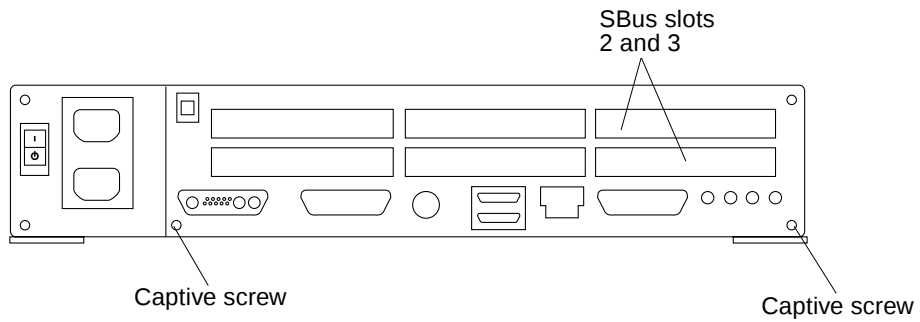

FIGURE 8-37 Back Panel SBus Slots and Captive Screws
- 5. Replace any SBus cards (see FIGURE 8-37).**
- 6. Loosen the two captive screws that secure the system board back panel to the chassis (FIGURE 8-37).**
- 5. Slide the system board completely into the chassis. Tighten the two captive screws that secure the system board back panel to the chassis (FIGURE 8-37).**